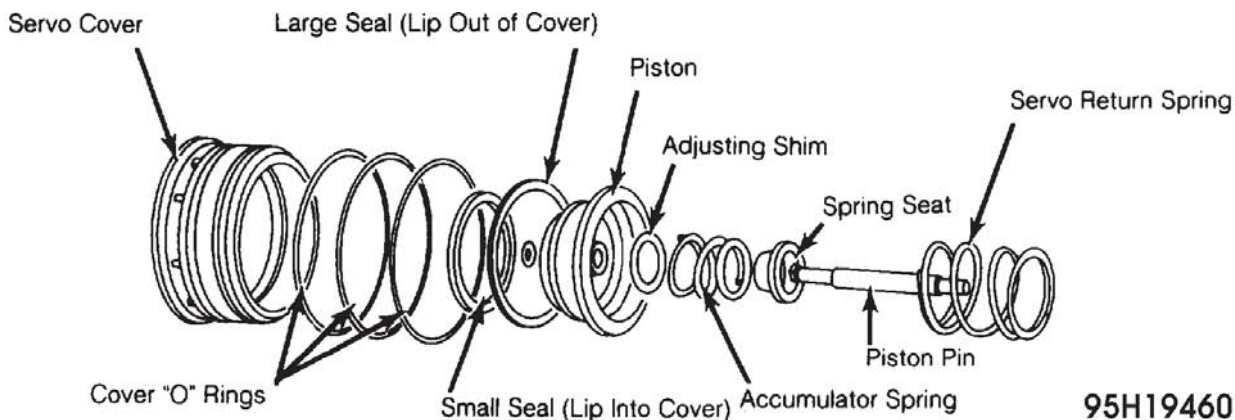

Fig. 15: Exploded View Of 2nd Gear Brake Band Servo Piston Assembly
2. Remove and discard "O" ring seals from outside diameter of cover. Remove retaining clip and separate piston pin, accumulator spring, spring seat, and adjusting shim(s) from servo piston. Withdraw and discard 2 lip seals from servo piston. See **Fig. 15**.